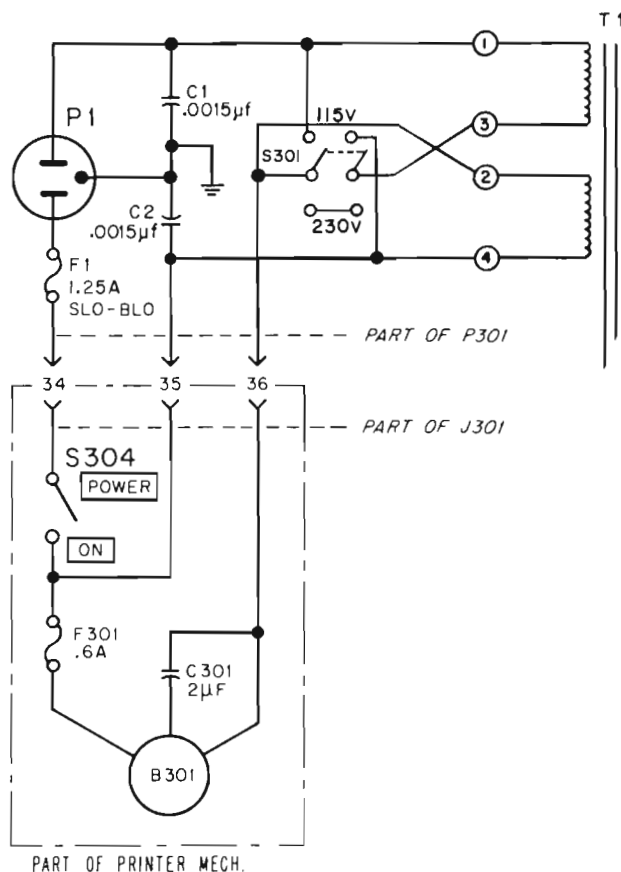

Figure 1. Changes for prefix 241
(241) Revise diagram as shown in Figure 1 below.